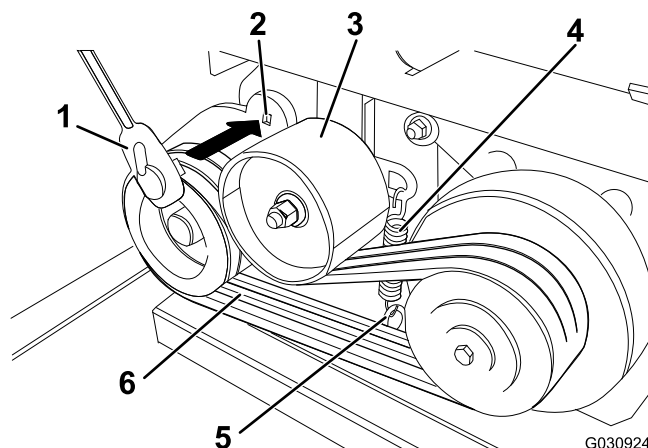

Figure 54
2. Check the condition of the belt (Figure 54).
- B. Insert a socket wrench into the square hole in the idler arm and rotate the wrench upward (Figure 54).